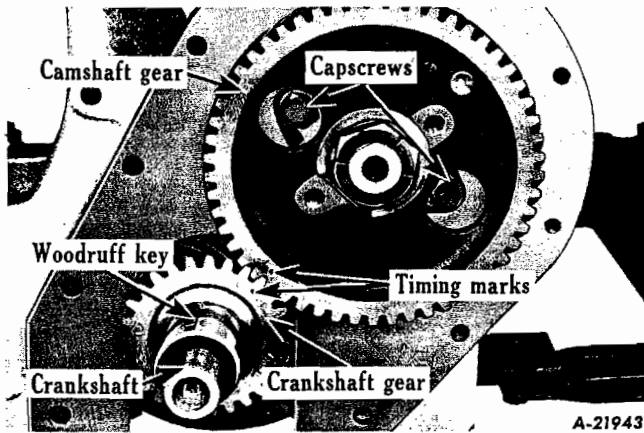

Fig. 70
9. INSTALL CAMSHAFT AND GEAR. Coat camshaft with engine oil. Insert camshaft into front end of engine block, being careful not to damage camshaft bearings. Before completely entering camshaft rotate shaft until marked teeth on crankshaft gear and camshaft gear index (Fig. 70). Install two capscrews and lockwashers in camshaft thrust flange, working through large holes in camshaft gear. Rotate crankshaft and camshaft to establish that gears do not bind or interfere. Backlash must be from .000" to .007" (.0015" preferred).